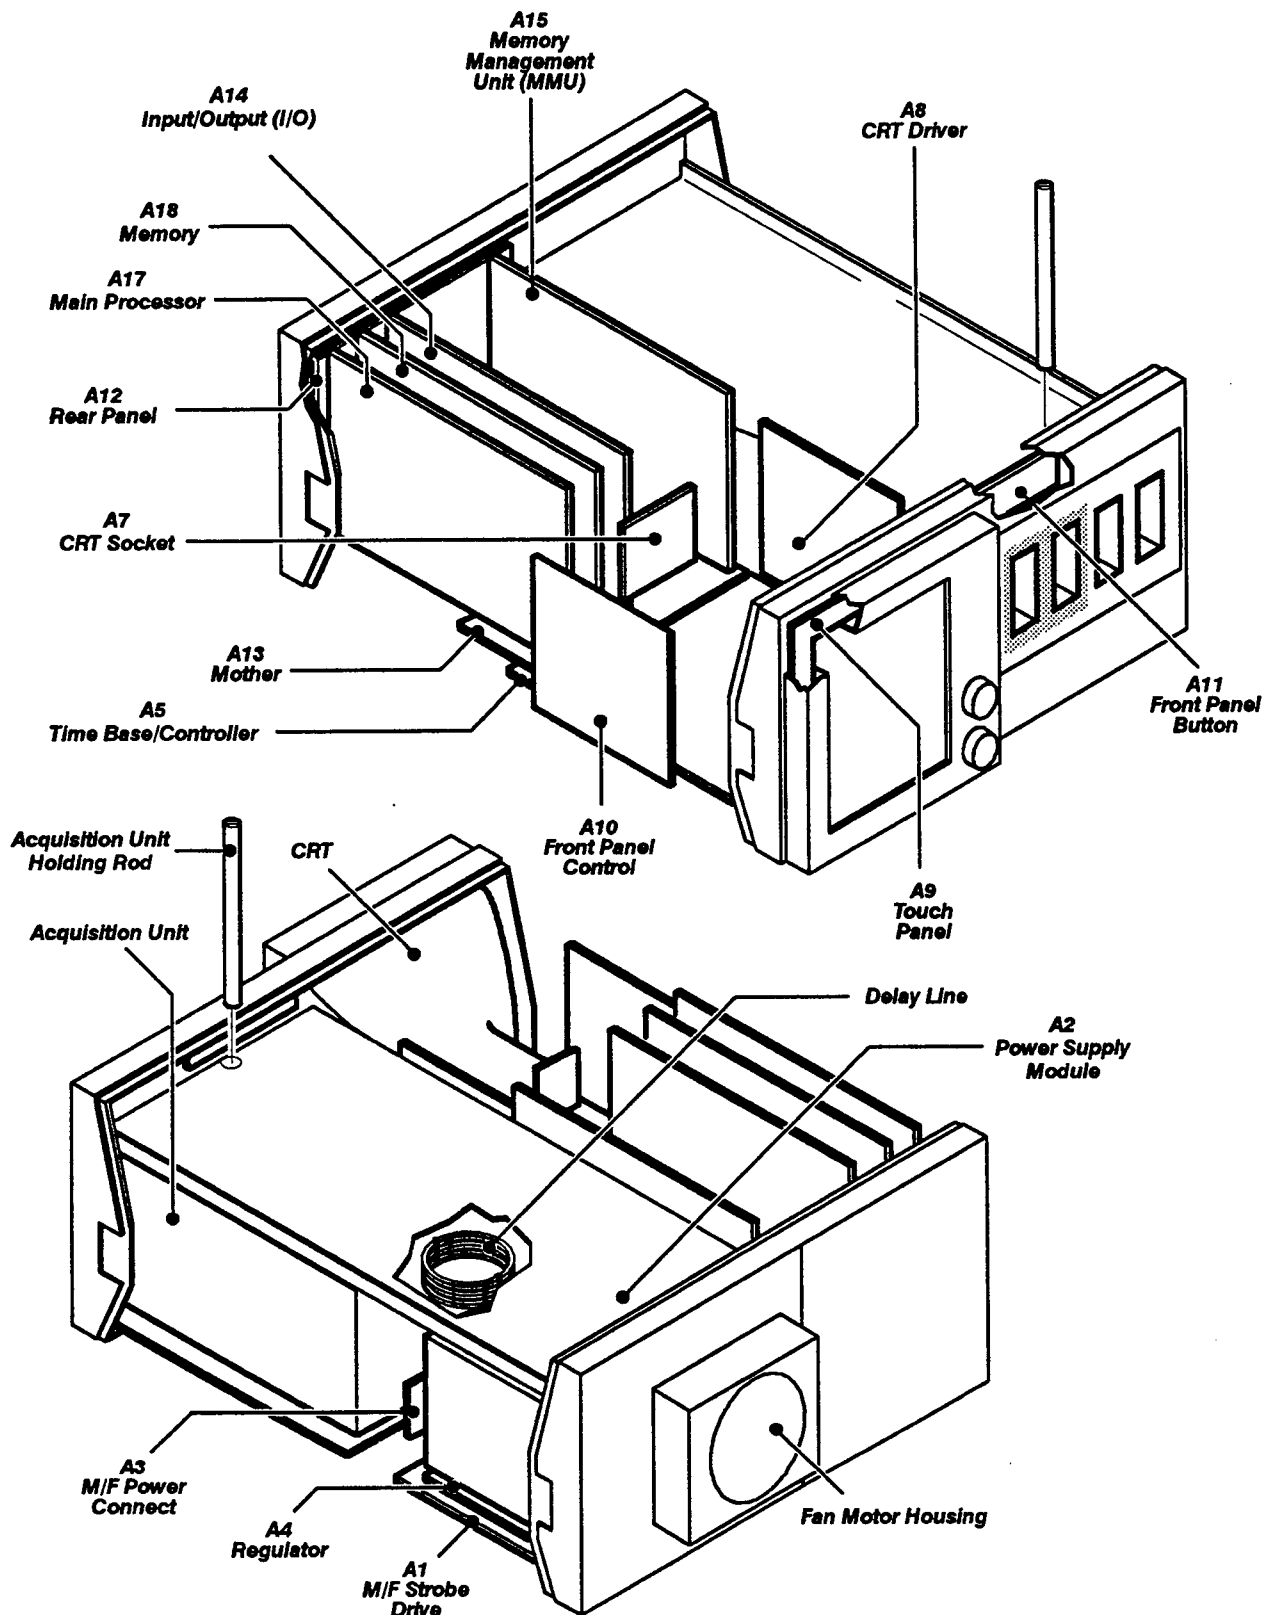

Figure 1: Mainframe Circuit Board Locations
Position the instrument with the bottom facing the installer. The Time Base/Controller circuit board is located towards the front of the instrument. Refer to Figure 1 for circuit board locations.
- Step 19:** Remove the long holding rod located on the top of the instrument. The holding rod secures the Acquisition Unit into the instrument. Refer to Figure 1, for holding rod location.
- Step 26:** Remove the two (2) Torx drive screws that secures each black retaining brace located on the top of the Acquisition Unit. Then remove the retaining braces from the Acquisition Unit.